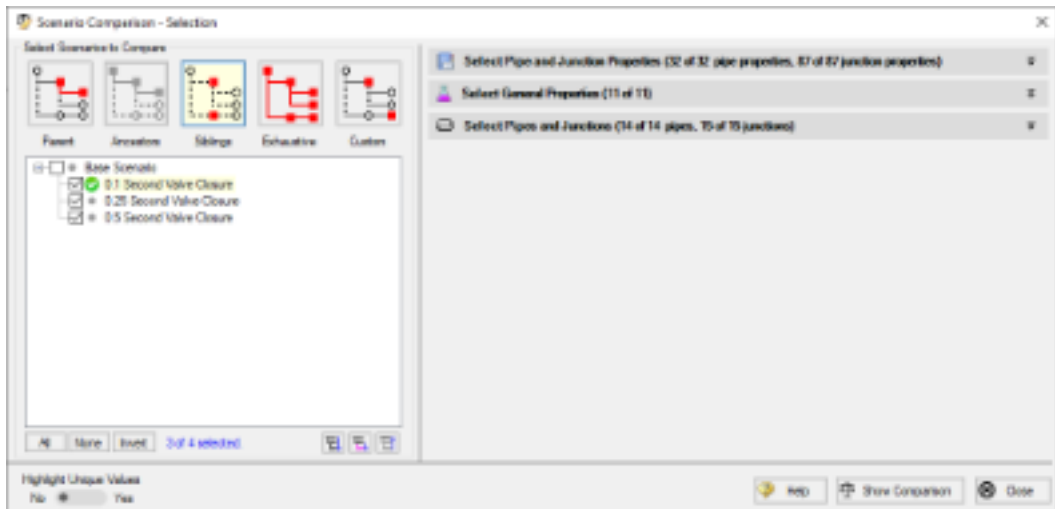

Figure 5.8 Scenario Comparison Tool - Selection window
3. In the Scenario Comparison - Selection window (Figure 5.8), select the Siblings option.